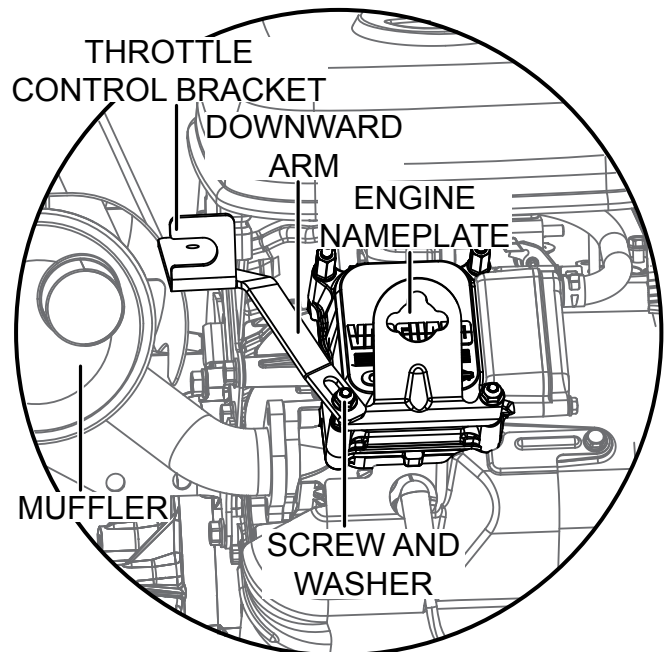

Figure 13. Throttle Control Bracket Engine Securing
- Using a wrench and socket, remove and set aside the lower left screw and washer from the engine nameplate on the clutch and muffler side of the engine as shown in Figure 13.
- Place the throttle control bracket downward arm where the screw and washer were as shown in Figure 13.
- Reinstall the screw and washer to secure the throttle control bracket to the engine as shown in Figure 13.